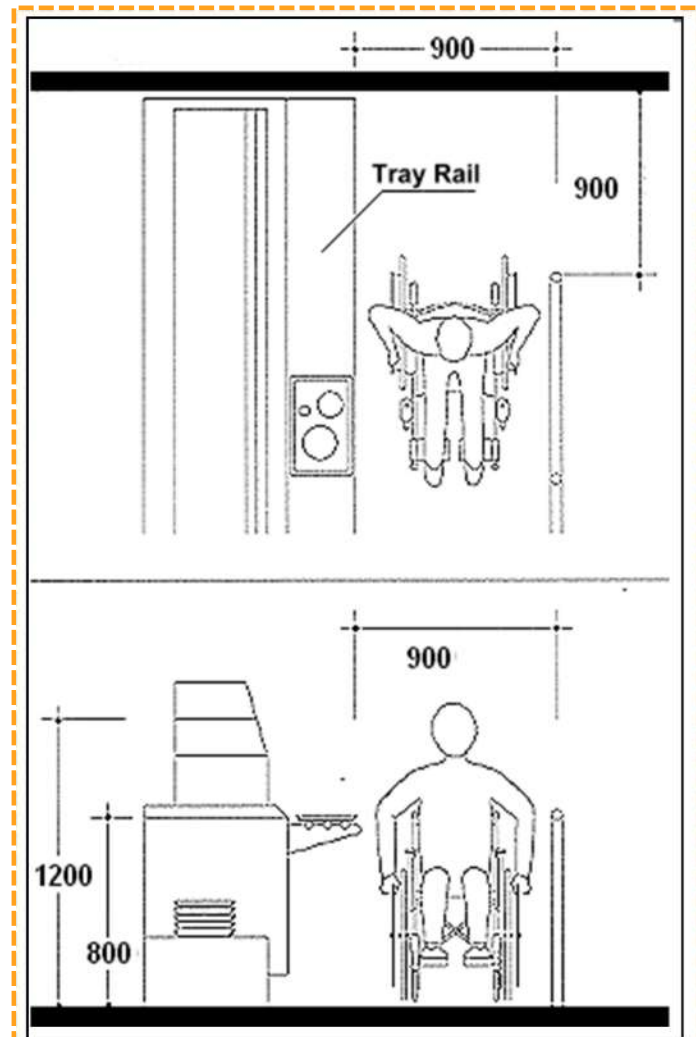

Figure 6.4: Wheelchair aisle and reach height
- In self-service canteens, tray slides and counters should be mounted at 800mm from the floor for wheelchair users. Food shelves should be mounted at a maximum height of 1200 mm and aisle space of minimum 900mm should be provided (**Figure 6.4**).